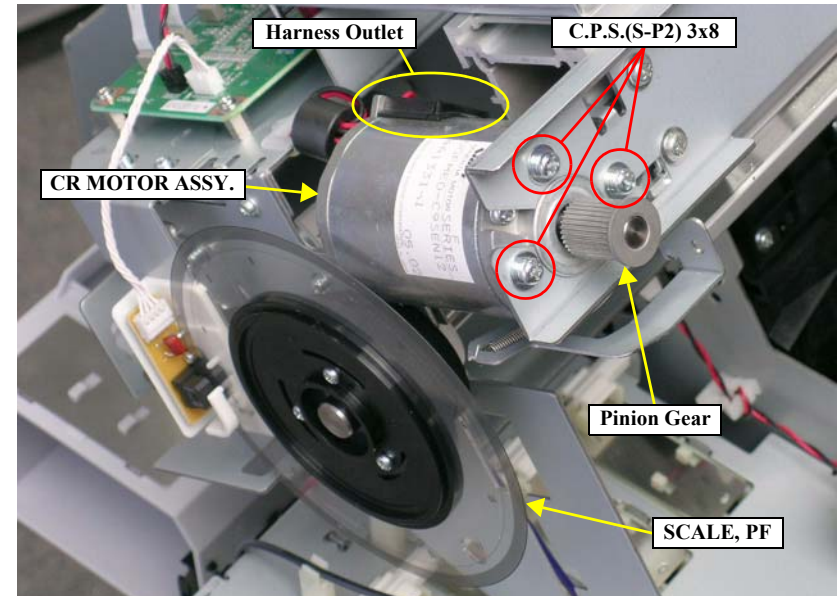

Figure 4-59. Removing the CR MOTOR ASSY.
- Exercise care to avoid deforming or damaging the SCALE, PF. *See Figure 4-59.*
4. Remove the three screws that secure the CR MOTOR ASSY. and remove it. *See Figure 4-59.*
■ Reinstall the CR MOTOR ASSY. so that the harness outlet of the assy. faces up. *See Figure 4-59.*